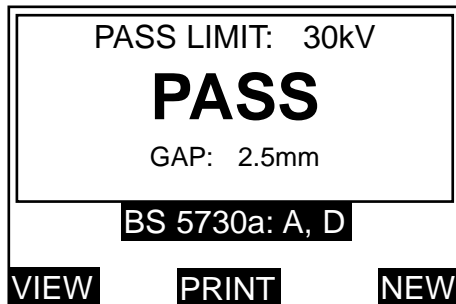
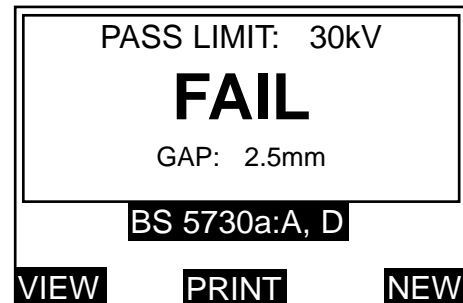

Figure 21a. BS5730a PASS display screen.
Figure 21b. BS5730a FAIL display screen.
- The sequence of events now depends on the results of the first test. If the test was successful no further testing takes place. The display appears similar to figure 21a.
- The second application of the withstand voltage will automatically occur next, with the sequence repeating step (6) above. The display will indicate the actual test number in progress.
- The sequence of events now depends on the result of the second test. If the second test is unsuccessful, no further testing takes place. The display appears similar to figure 21b.
- A third application of the withstand voltage will occur next, with the sequence repeating step (9) above. The display indicates the actual test number in progress.
- If the third test was successful, the display will appear similar to figure 21a. An unsuccessful third test will prompt a display similar to figure 21b, and no further testing takes place.